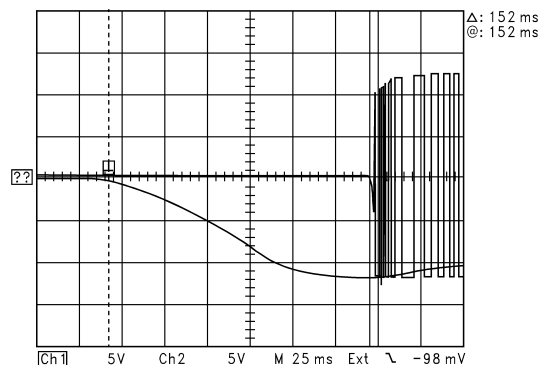

Figure 5. Startup Timing Diagram
The LM4651 has an internal soft start feature (see Figure 5) that ensures reliable and consistent start-up while minimizing turn-on thumps or pops. During the start-up cycle the system is in standby mode. This start-up time is controlled externally by adjusting the capacitance (C_{START}) value connected to the START pin. The start-up time can be controlled by the capacitor value connected to the START pin given by Equation (1) or (2):